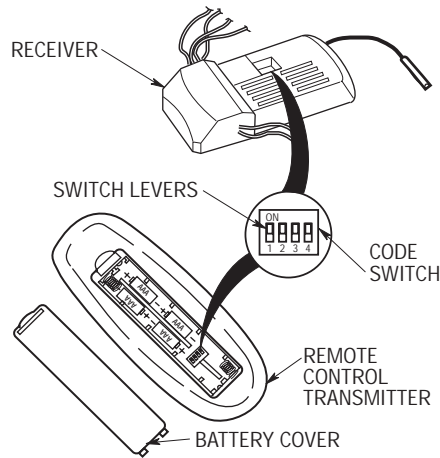

Figure 1
- 1. Remove the battery cover and install four AAA alkaline batteries (not supplied), oriented as shown in the diagram in the battery compartment. (Figure 1).
- 1. On the remote control transmitter, locate the code switch just above the battery compartment (Figure 1).
- 3. In the receiver (Figure 1), slide the four switch levers to the same positions as set in the transmitter. Make sure the levers on both switches are in the same positions, otherwise the fan will not operate.